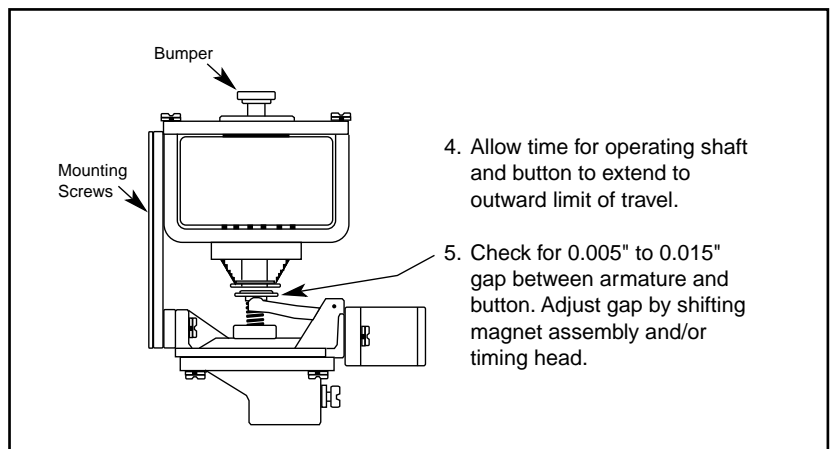

Figure 3: Timing Mode Conversion-On Delay
3. Check and adjust gap according to new timing mode. See Figure 3 or 4.